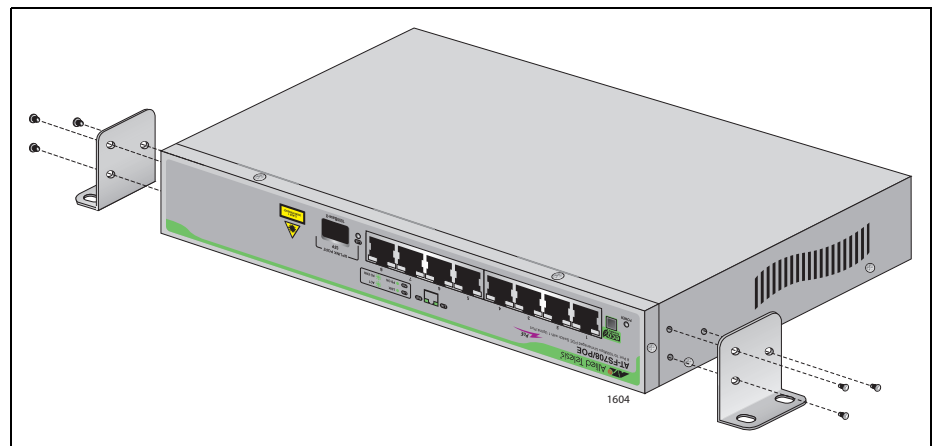

Figure 5. Attaching Brackets for Wall Mounting
3. Turn the switch over and attach a mounting bracket to each side of the switch using the bracket mounting screws, as shown Figure 5.